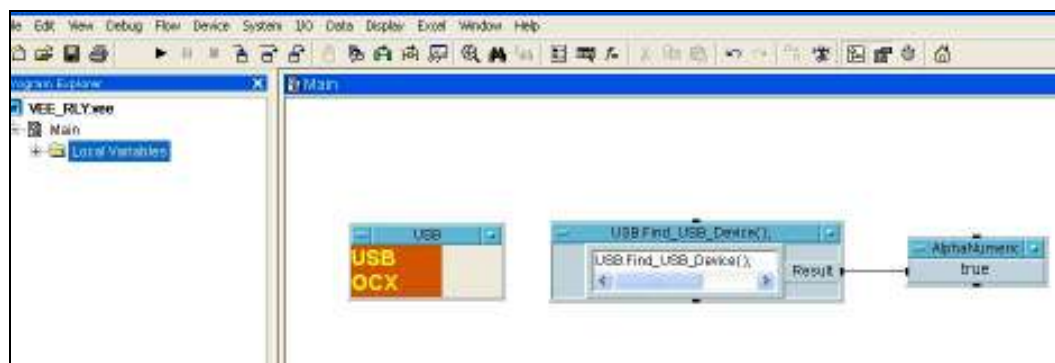

Figure 6.
7. After double clicking on the selected method, a small method form appears on your main development form. Now, we go to "Display" in the pull-down menu and select "AlphaNumeric" box. Connect "Result" (in the small method form) with the input to the "AlphaNumeric" box. Run the program. If a Softmark module is connected to the USB bus, you should get a "True" response from the USB.OCX. See Figure 6 below.